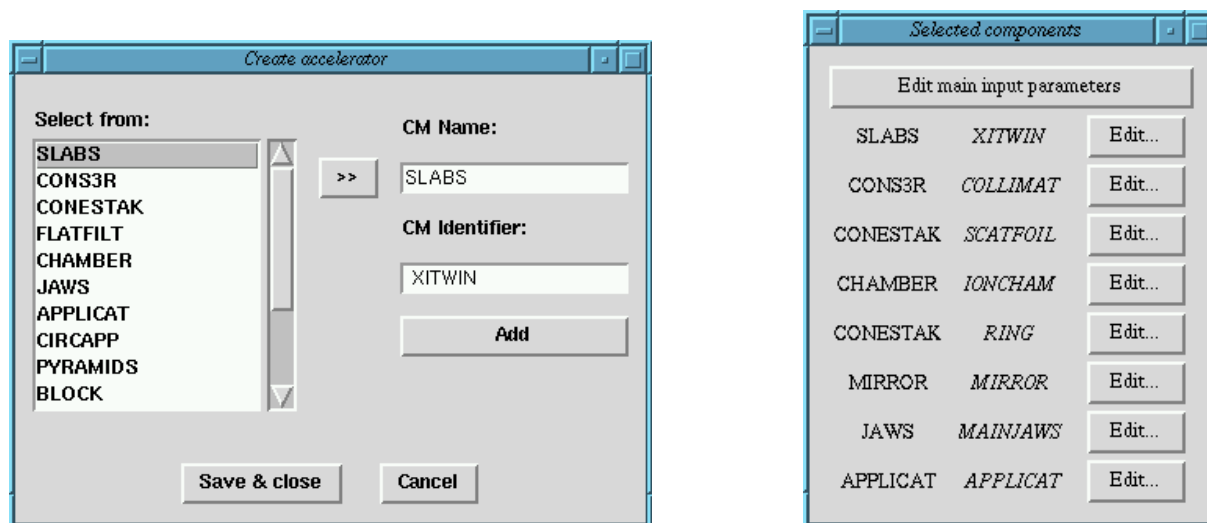

Figure 1: The windows for specifying a new accelerator (left) and for displaying the selected CMs in the accelerator (right).
The first step in using the GUI is to load an accelerator. If you wish to load a previously defined accelerator, select the **Load a previous accelerator** option from the main window File menu (shown on the front of this manual). A browser will allow you to select the file you wish to load from the `$EGS_HOME/beamnrc/spec_modules` directory closest to the directory in which the GUI was started. Otherwise, select the **Specify a new accelerator** option. A window will appear which allows you to select the CMs you would like to add to the accelerator, shown on the left of figure 1. Double-clicking a CM name on the list, or clicking once to select then clicking the “>>” button, will insert the CM name into the text box. Enter an
identifier name (maximum of 8 characters) then click **Add** to add the CM to the accelerator. The window on the right of figure 1 shows the window which holds the selected CMs.
To edit the parameters for a component module (CM), click on the **Edit...** button associated with it (see the window on the right of figure 1). A window will appear with the necessary parameter entry boxes for the CM. A typical CONESTAK CM parameter window is shown in figure 3. The default values associated with that type of CM are displayed at the top of the window. If they are not appropriate for what you need, they may be edited in the file `$OMEGA_HOME/beamnrc/CMs/<CMname>_macros.mortran`. Note that if these files are changed, the changes will apply to all users. Also shown is the current Z-position on the accelerator of the front of that CM, based on the geometry defined for the previous CM at the time the window was opened (reopen the window to get an update of this value).